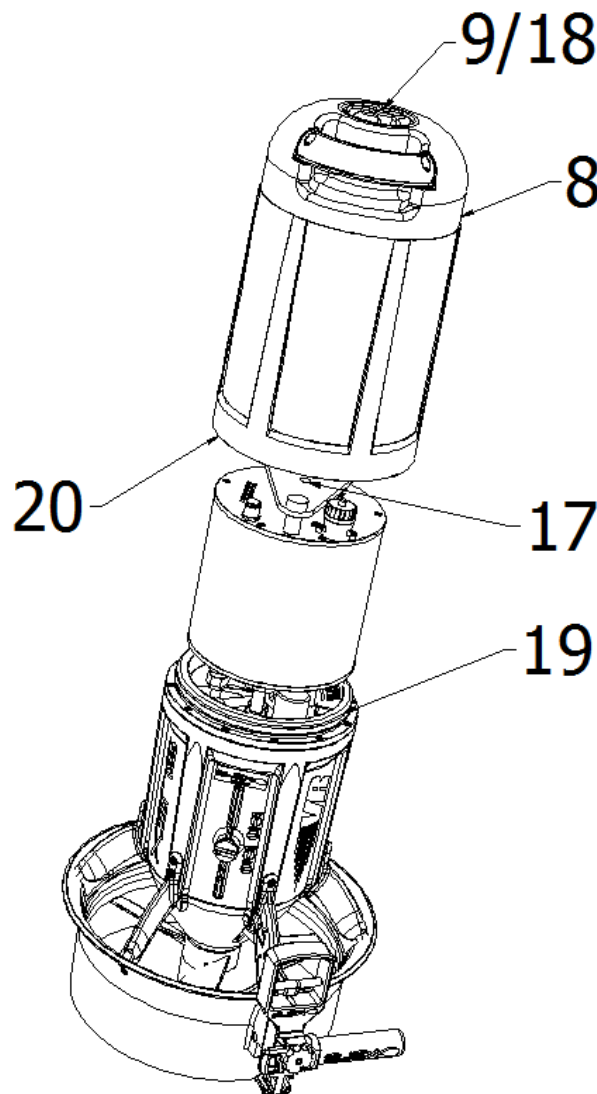

Fig.5 - Closing the battery compartment
Always with the Scooter in vertical position, carefully check that the closing OR gasket (19 - Fig.5) is inserted in its seat, cleaned and adequately lubricated with petroleum jelly. Also check the cleanliness of the body seat (20), if necessary pass a clean microfibre cloth to remove dust or sand. Insert the nosecone (8 - Fig.6) matching the screw (18) with the hole (17). Turn the handwheel (9) clockwise until it is completely closed without tightening too much using just the force of two fingers.